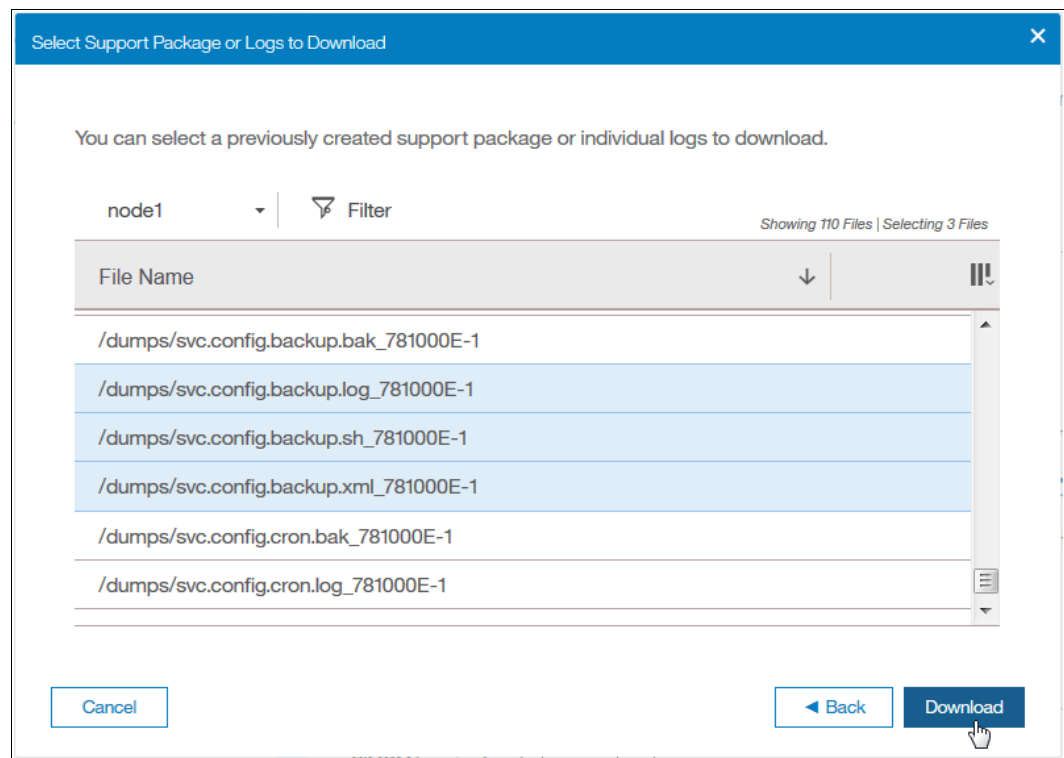

Figure 12-28 Backup files download
2. Search for the files that are named `svc.config.backup.xml_*`, `svc.config.backup.sh_*`, and `svc.config.backup.log_*`. Select the files, right-click, and select **Download**, as shown in Figure 12-28.